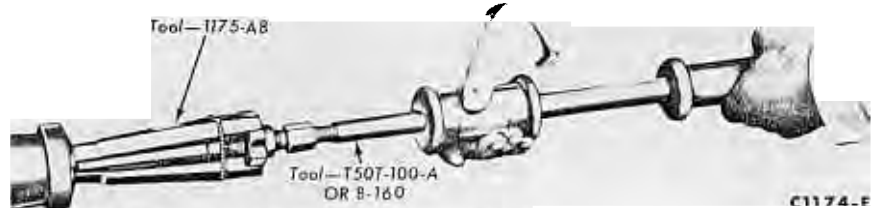
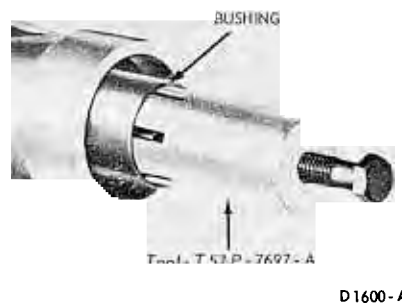

FIG. 19—Removing Extension Housing Seal
FIG. 20—Removing Extension Housing Bushing
2. When only the rear seal needs replacing, carefully remove it with a tapered chisel or the tools shown in Fig. 19. Remove the bushing as shown in Fig. 20. Use the bushing remover carefully so that the spline seal is not damaged.